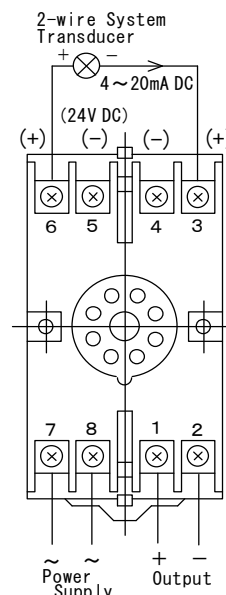

Fig.2
2. Make the connection as per the connection diagram **Fig.2**, using the cables to meet the rated capacity of the circuit.